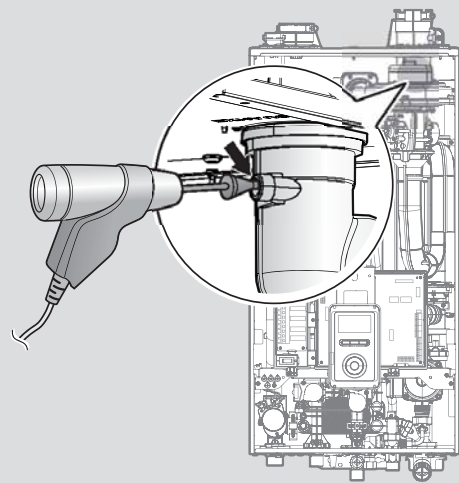

Figure 6. Insert the Analyzer
- Loosen the screw, rotate the plate and remove the gasket to access the emissions monitoring port as shown in Figure 6.
b. Insert the analyzer into the port (Figure 6).